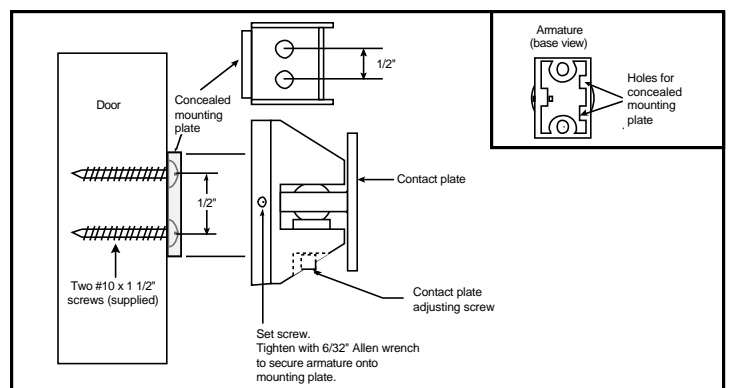

Figure 6. Surface Concealed Mounting
- Surface concealed mounting (Figure 6).** Measure two points for 1/8" holes drilled 1/2" on center, equidistant from each marked point. Center punch the holes and drill 1/8" diameter x 1-1/4" deep. Install the concealed mounting plate using two #10 x 1-1/2" screws provided.